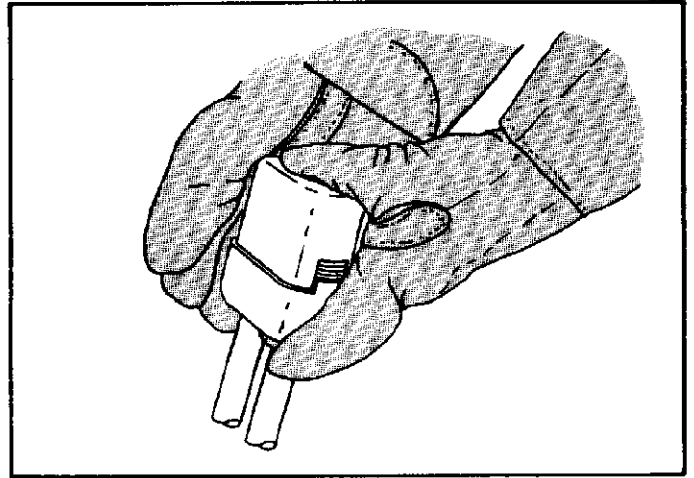

Figure 11
- (i) Place cap over tap and push onto cover base. Squeeze base and cap together tightly by hand. See Figure 11.